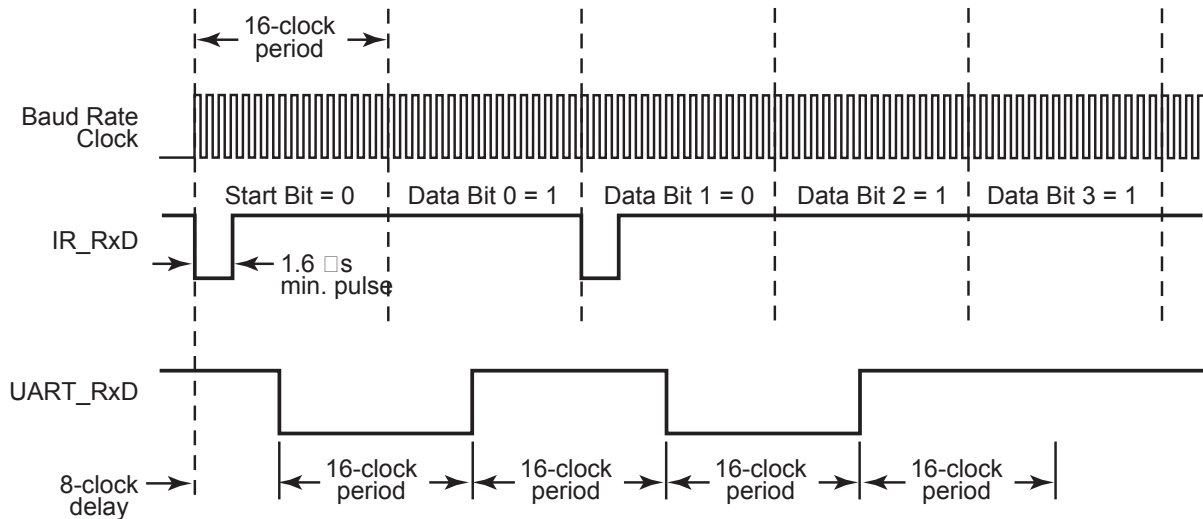

Figure 26. Infrared Data Reception
output following a 7-clock High (1) period. Following the 3-clock Low pulse, is a 6-clock High pulse to complete the full 16-clock data period. Data transmission is illustrated in Figure 26.